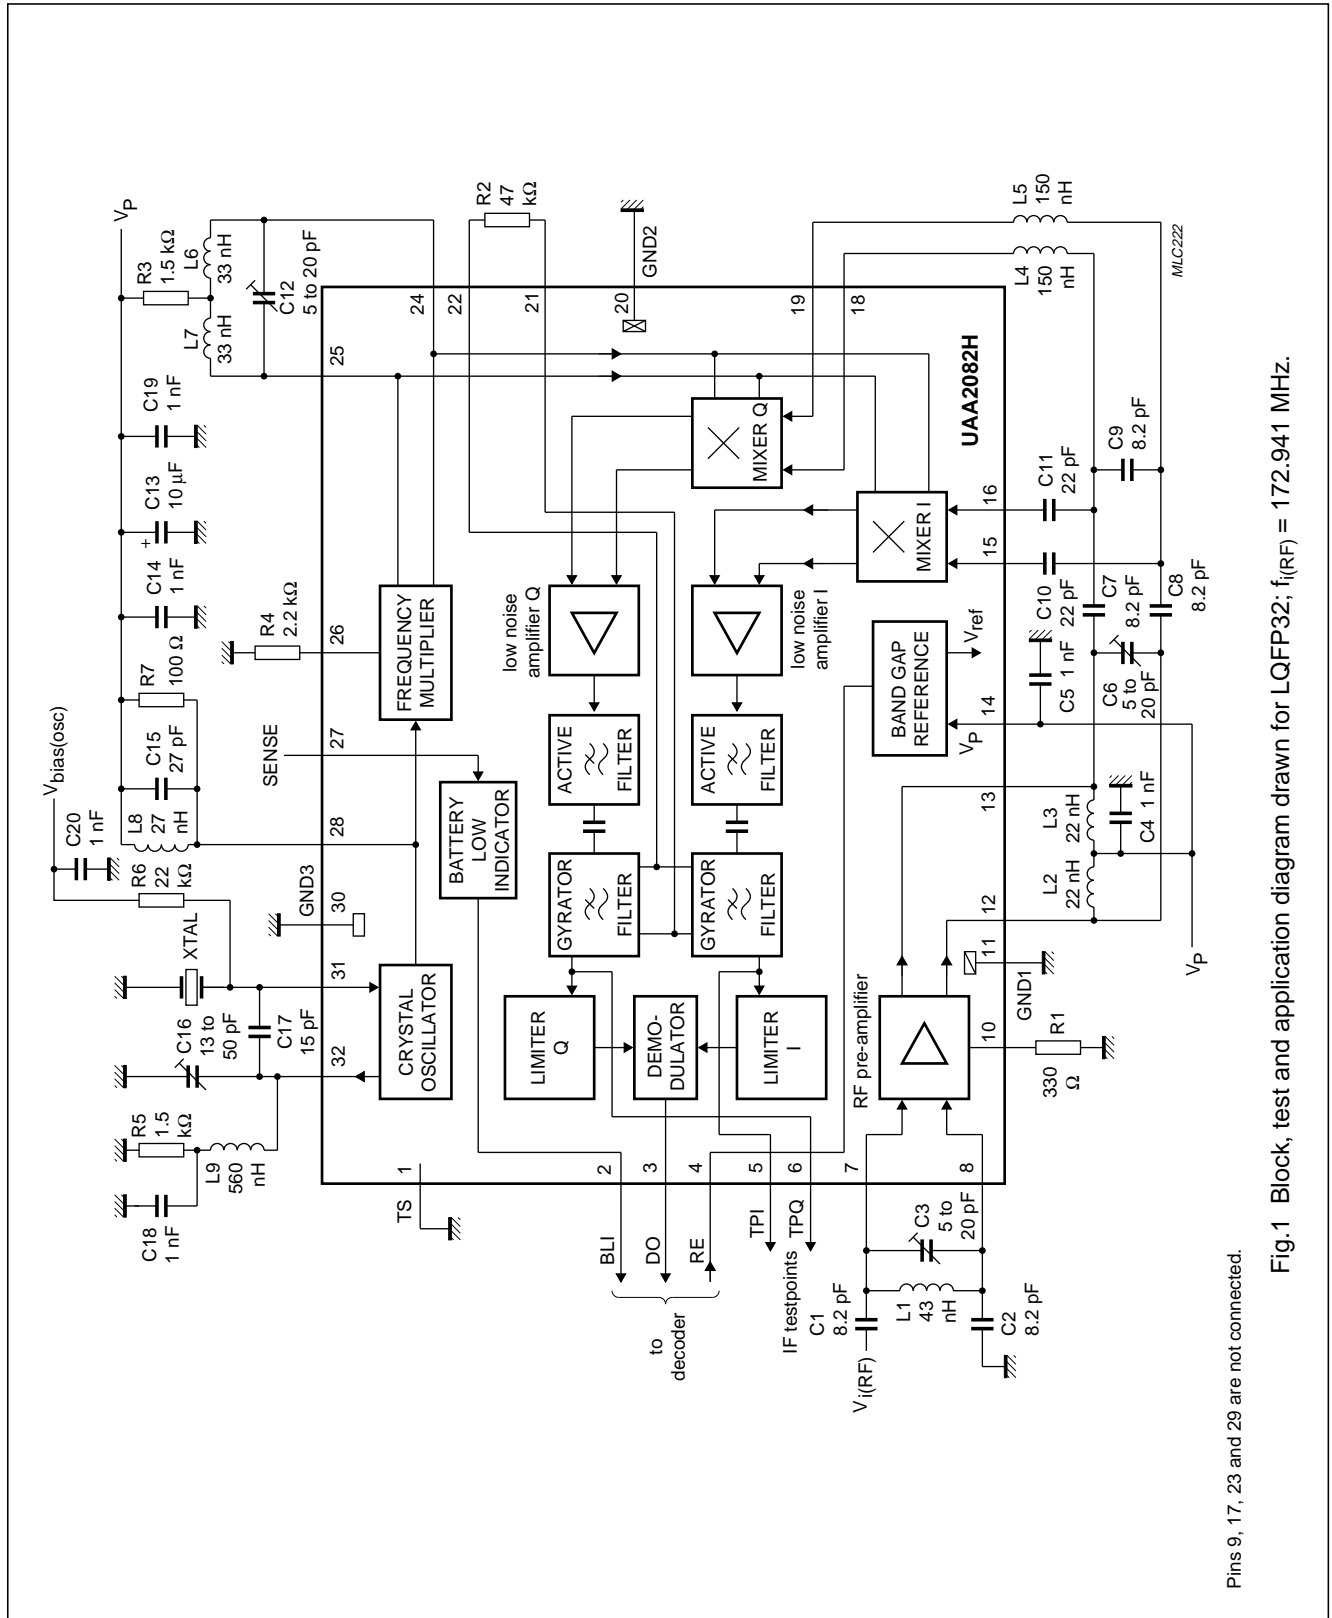

Fig.1 Block, test and application diagram drawn for LQFP32;  $f_{i(RF)} = 172.941$  MHz.
**Table 1** Tolerances of components shown in Figs 1 and 2 (notes 1 and 2)